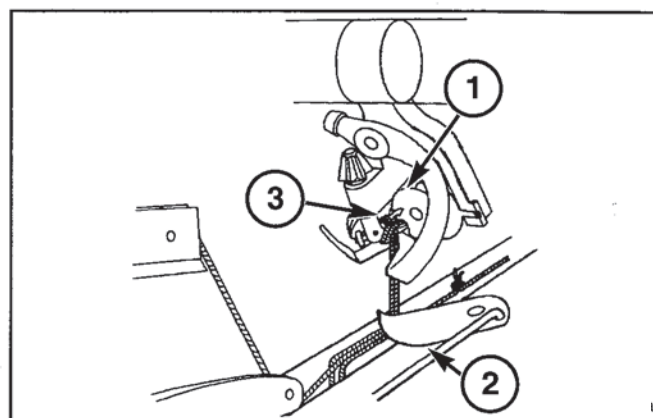

FIG. 12
FIG: 12: The billhook continues to turn approximately 180 degrees while the billhook tongue (1) raises to receive the twine ends. The twine finger (2) retracts to supply twine for the knot. The twine disc finishes the rotation and the twine is in position to be cut by the twine knife (3).